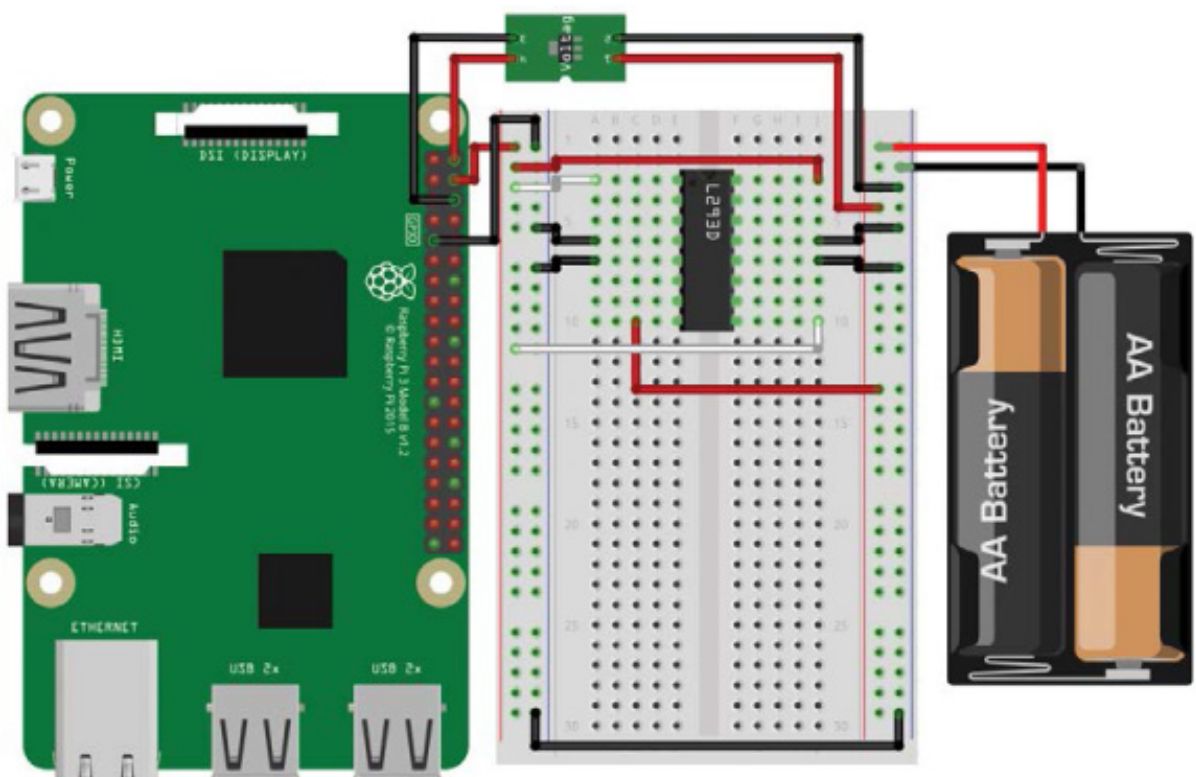

FIGURE 3-26 Connecting the L293D's Enable pins to a high voltage by connecting them to the Pi's 5 V power rail
6. Now it's time to connect the power for the motors, which will come directly out of your battery pack. Wire the positive +7 V to 9 V power rail connected to your battery pack to pin 8 (VCC 2) on your L293D. Instead of being the chip's power supply, this time this is the motor's power supply. Figure 3-26 shows this connection.
7. The L293D has two *Enable* pins. If these aren't *on* (in other words, if they are not receiving a high voltage), then any motor wired up to your L293D won't respond to commands. To turn the Enable pins permanently on, connect pin 1 (Enable 1,2) and pin 9 (Enable 3,4) of your L293D to the positive power rail connected to 5 V on the Pi. I have used white wires in Figure 3-26 to show this step.